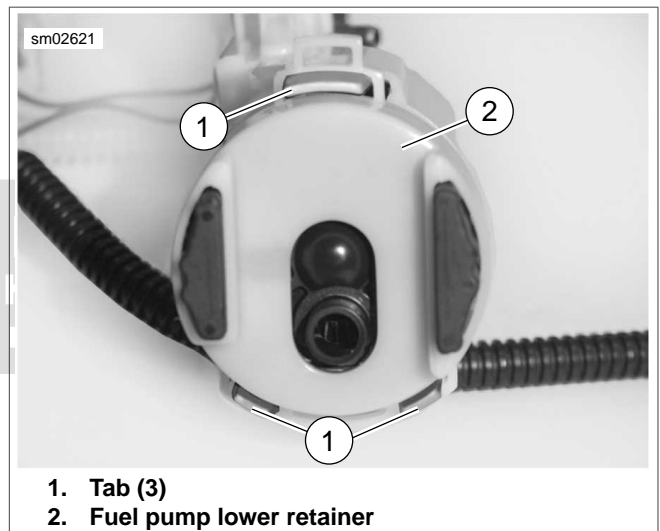

Figure 4-48. Filter Retainer Clip
4. See Figure 4-48. Depress tabs (1) and remove lower retainer (2) from upper retainer.
9. See Figure 4-48. Install lower retainer.